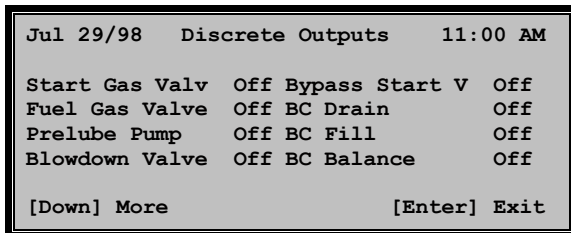

Figure 2–18
- (a) From the STATUS MENU screen (Figure 2–7) choose [8].
- (b) The DISCRETE OUTPUTS screen (Figure 2–18) will be displayed.